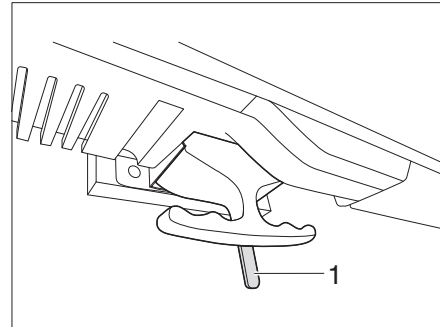

Fig. 136 Flat screen unlocking
- Push the lever (Fig. 136,1) to the left. The lock is released.
- Push the lever (Fig. 136,1) to the middle position. The flat screen is locked.